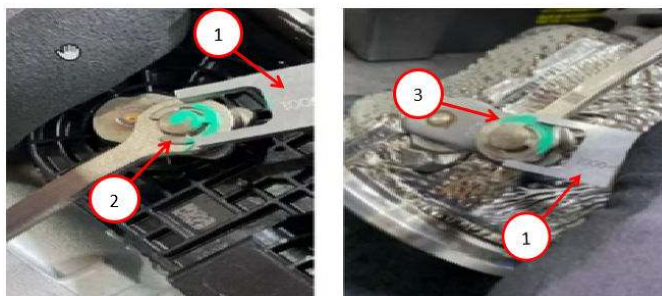

Fig. 1
2. Using a caliper, measure the dimensions of the two wastegate rod retaining clips on the actuator side Fig. 1.
5. Using a caliper, measure the dimensions of the two wastegate rod retaining clips on the housing side Fig. 1.